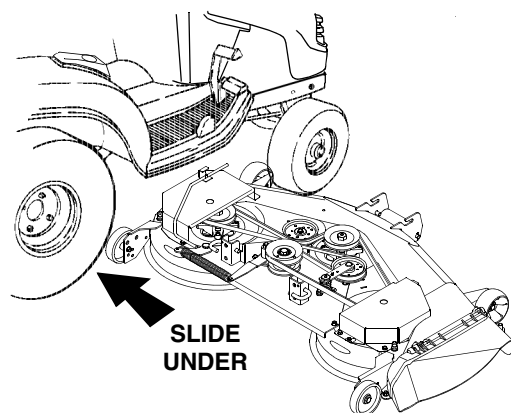

Figure 2-2
3. Position the deck on the right side of the tractor with the front of the deck facing toward the front of the tractor (Refer to Figure 2-2).